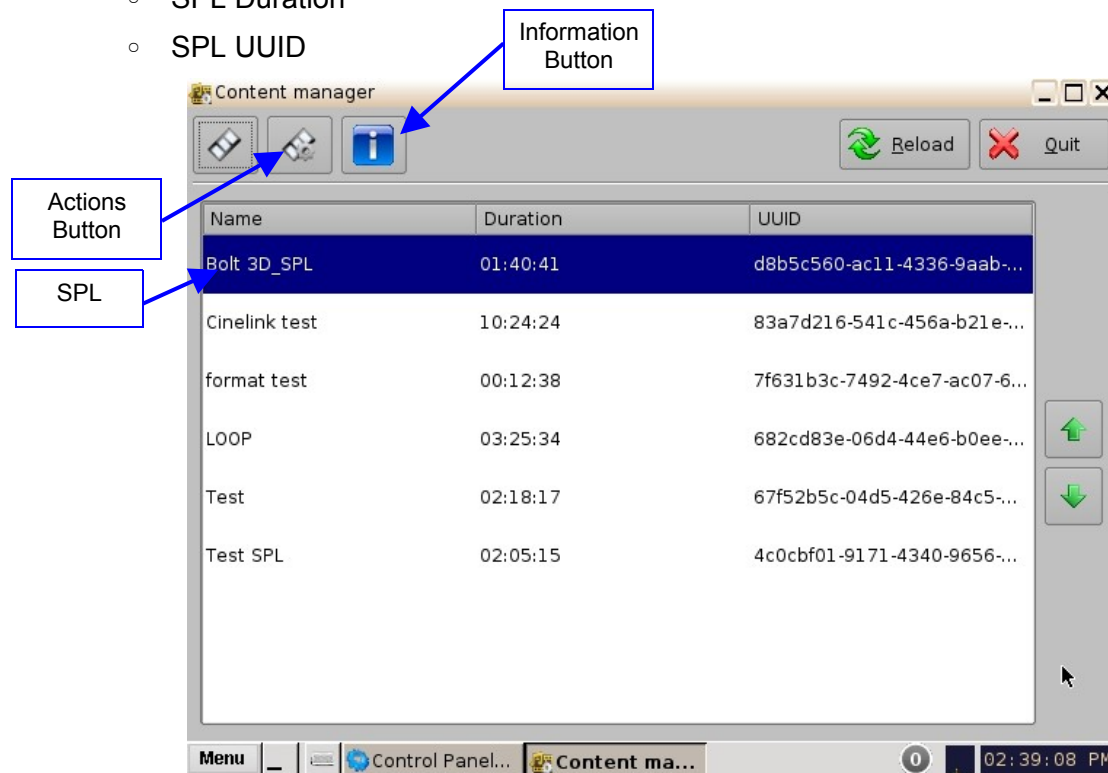

Figure 81: Show Playlists Page
- Select an SPL from the list and click the Actions button (Figure 81) and select Delete from the drop-down menu.
- Select an SPL from the list and click the Actions button (Figure 81) and select Export from the drop-down menu.